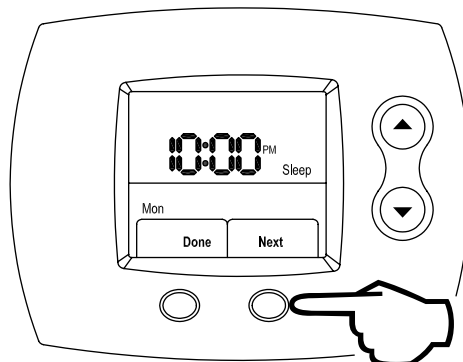

Figure 71
Step 24: Press the **RIGHT** (Next) button to lock in AM / PM. This is shown in Figure 71.